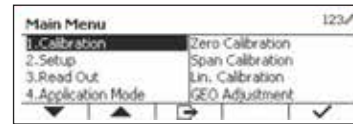

Figure 20
- Long press the User icon to enter Main Menu. Select the menu item Calibration by pressing the softkey corresponding to the ✓ icon. (See Figure 20)